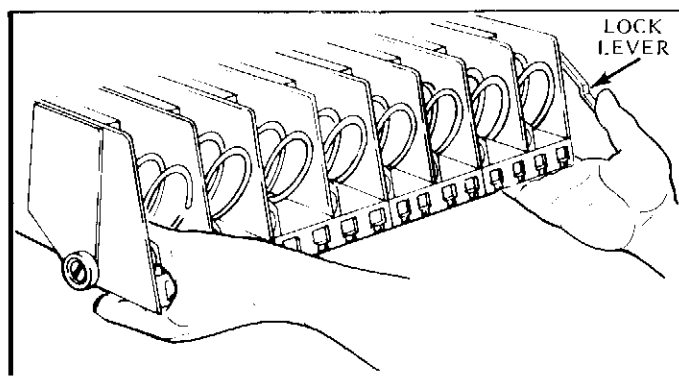

Figure 1. MOVING SHELF TO LOADING POSITION.
3. **LOADING SNACK SHELVES:** Open door to full open position, push down on white plastic lock lever (page 16, item 25) on right side panel by shelf to unlock shelf, holding lever down. Grasp the shelf under both front corners (see Figure 1), lift front of shelf slightly and pull forward until shelf reaches its stop. The two top shelves tilt down (do not drop) to make loading easier. The bottom two shelves remain horizontal. Only one product shelf should be in the loading position at a time. When returning a shelf, be sure shelf is in its full home or vend position. Begin loading with the top shelf. Move it to the loading position. The height spacing for items is greatest in this shelf and the tallest bagged items should be placed there. Soft items, such as pastry, pies, etc., should be placed in the lowest snack shelf, making the drop distance as short as possible.
- a. Lift up and push the lock lever toward the back of cabinet. See figure 1.